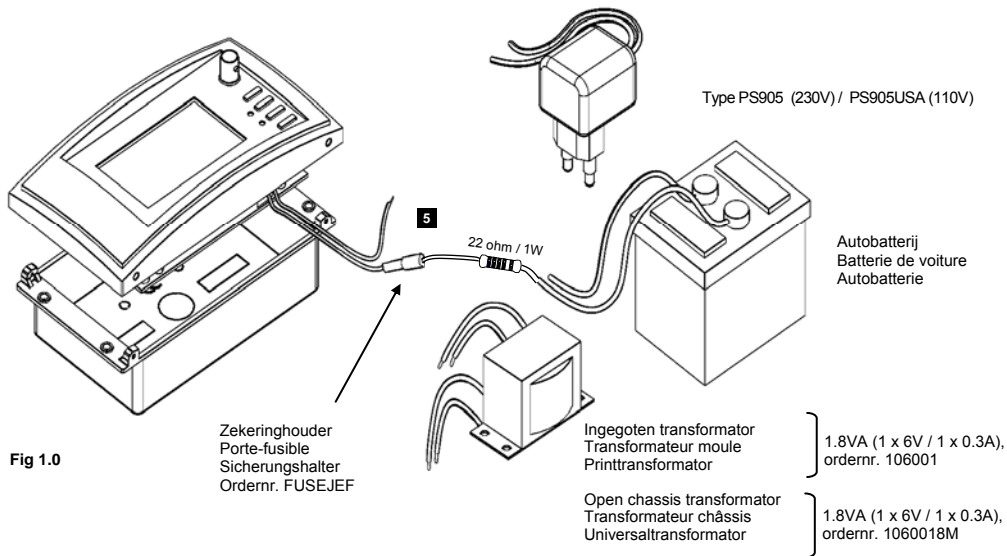

Fig 1.0
- Adapter: Type PS905 (230V) / PS905USA (110V) (Fig 1.0).
- Adaptateur: Type PS905 (230V) / PS905USA (110V) (Fig 1.0).